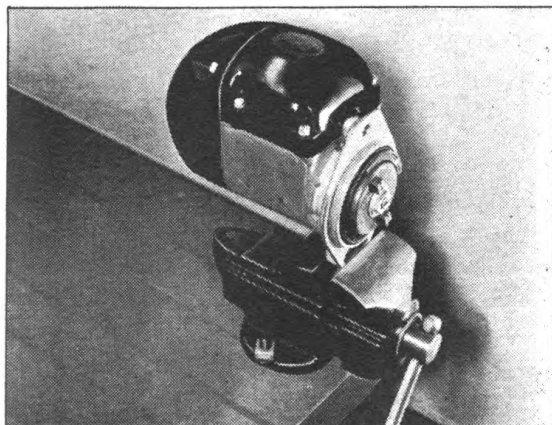

Fig. 39. Magneto Properly Set in Vise
1. Place the magneto on a bracket or in a bench vise where it can be turned by hand. Fig. 39.